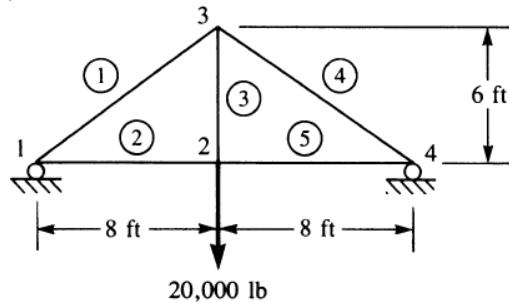

Figure 5
- 3A. For the truss shown in Figure 5, use symmetry to determine the displacements of the nodes and the stresses in each element. All elements have $E = 30 \times 10^6$ psi. Elements 1, 2, 4, and 5 have $A = 10 \text{ in}^2$ and element 3 has $A = 20 \text{ in}^2$. (07)